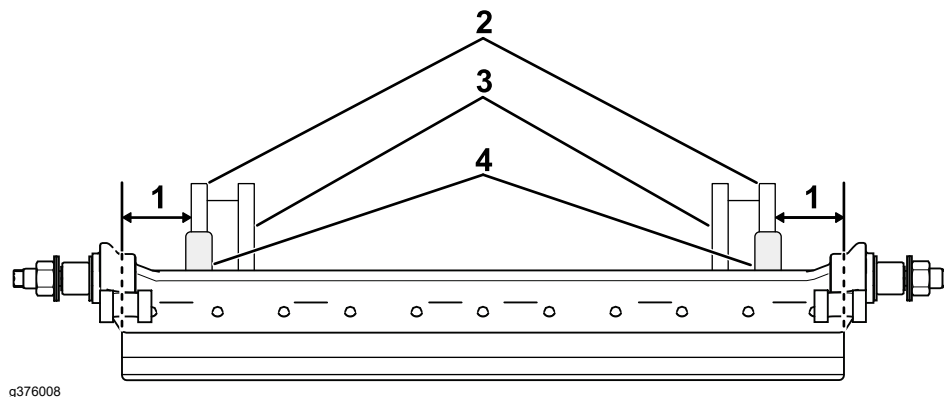

Figure 104
1. Place a .002 inch shim (Part No. 140-5531) between the outer most left and right magnets and the bedbar-bedknife assembly when placing it in the grinder (Figure 104).